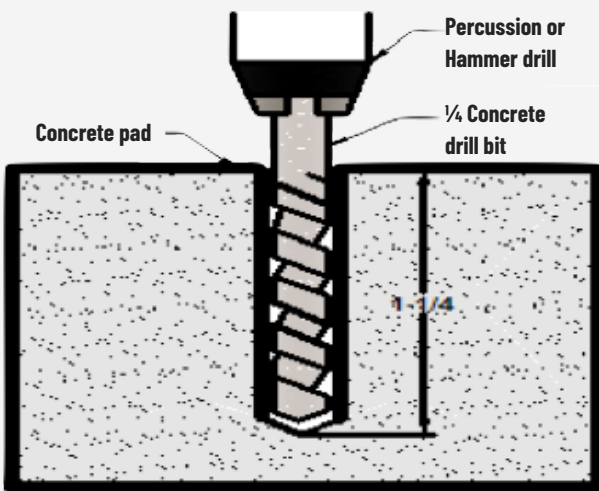

Figure 1 - Drilling XInc mounting anchor hole
2. Using a 1/4" masonry drill bit, drill to a depth of 1- 1/4" ± 1/8 inch using a percussion or hammer drill. Take caution not to exceed the needed depth, this will adversely affect anchor install height and render the drilled hole unusable. See Figure 1